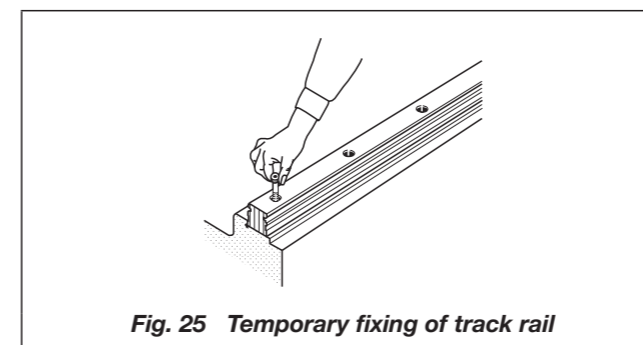

Fig. 25 Temporary fixing of track rail
- Correctly fit the reference mounting surfaces of Linear Way I and II track rails onto the mating reference mounting surfaces of the bed, and temporarily fix the track rails with mounting bolts. (See Fig. 25.)